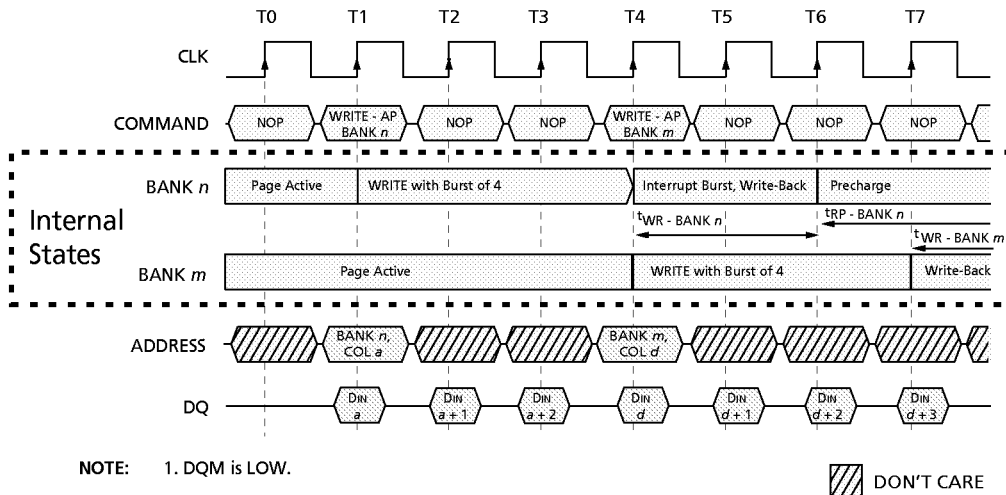

Figure 27
4. Interrupted by a WRITE (with or without auto precharge): A WRITE to bank *m* will interrupt a WRITE on bank *n* when registered. The PRECHARGE to bank *n* will begin after ^tWR is met, where ^tWR begins when the WRITE to bank *m* is registered. The last valid data WRITE to bank *n* will be data registered one clock prior to a WRITE to bank *m* (Figure 27).